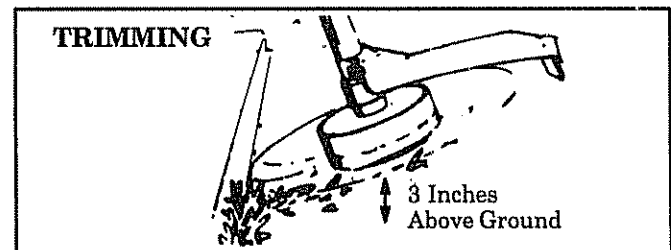

Figure 7
1. **TRIMMING** - Figure 7. Hold the bottom of the trimmer head about 3 inches (7.5 cm) above the ground and at an angle. Allow only the tip of the line to make contact. Do not force the trimmer line into the work area.